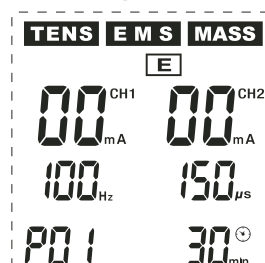

Fig. 11
- ⑯ **(E)**: Special programmes for the **elbow joint** (see Fig. 11)